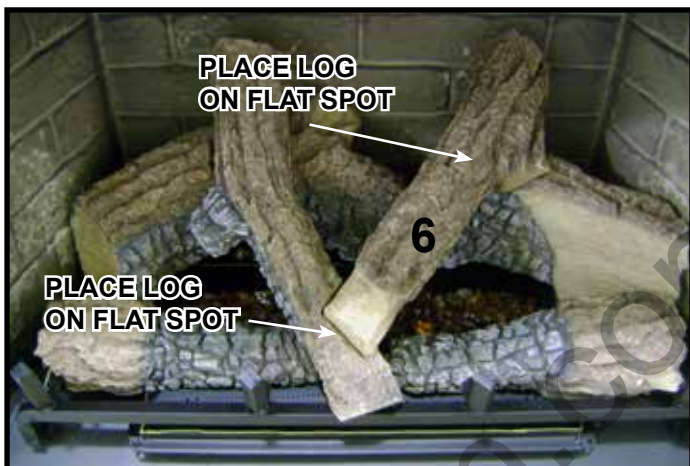

Figure 9. Place Log #6
**Log #6 (SRV2202-706):** See Figures 2 and 8 for additional references. Place the thick end of the log on the flat spot of Log #2. Place the thin end of Log #6 on the flat spot of Log #5 as shown in Figure 9.